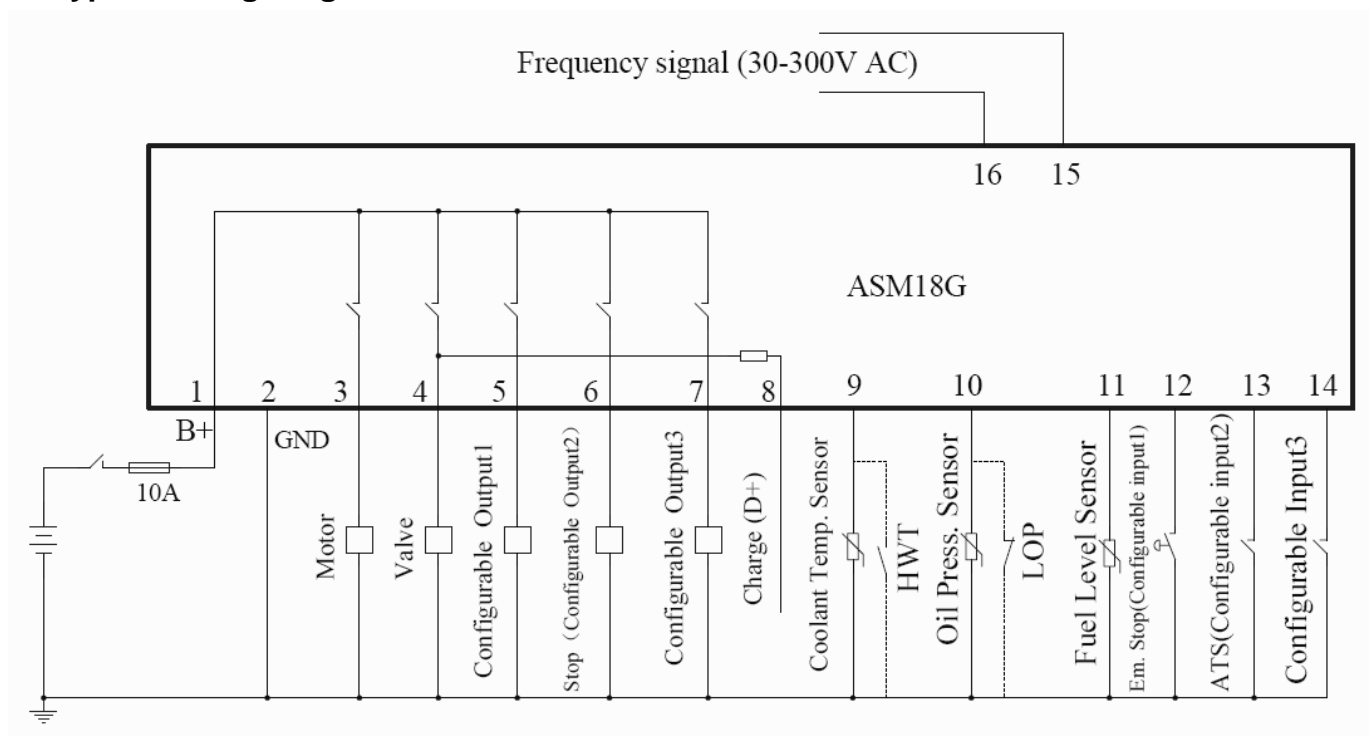

Fig. 2 Typical Wiring Diagram
4.2 Please see Fig. 2 Typical Wiring Diagram for wiring connecting.